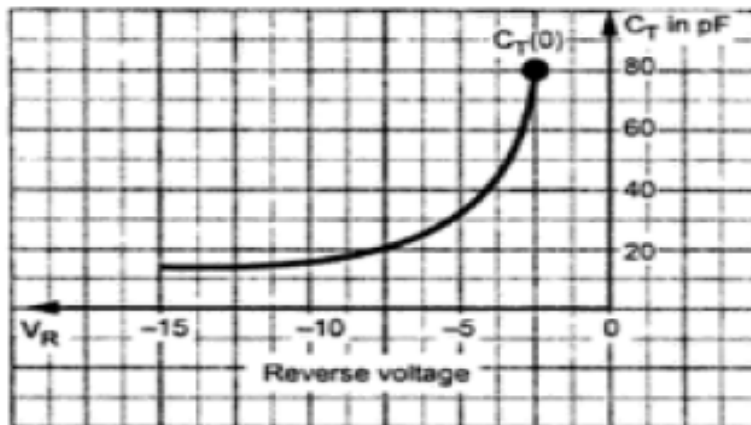

Fig. 5.22 Variation of C_T versus Reverse voltage
- As the reverse bias applied to the diode increases, the width of the depletion region (W) increases. Thus the transition capacitance C_T decreases.
- In short, the capacitance can be controlled by the applied voltage. The variation of C_T with respect to the applied reverse bias voltage is shown in the Fig. 5.22.